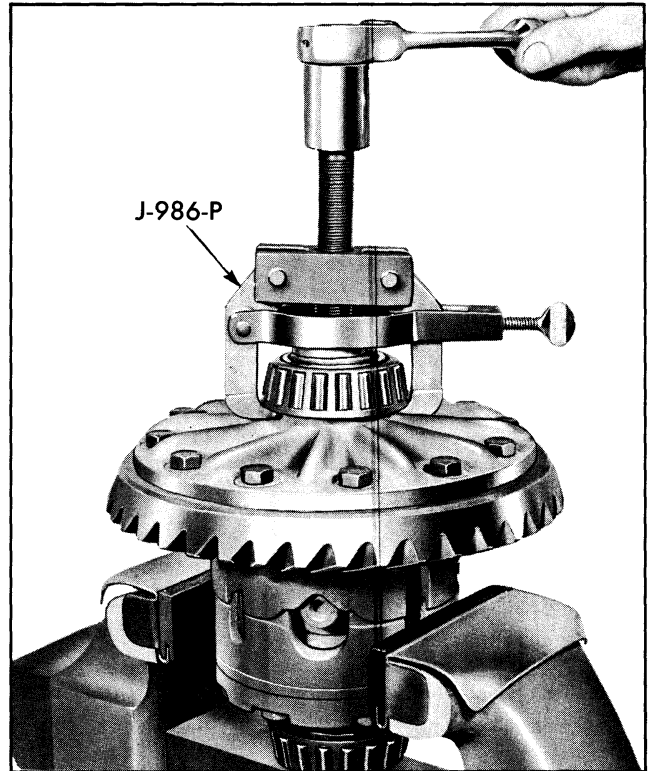

Fig. 4-62 Removing Side Bearings Using J-986-P
6. If bearing inspection indicates that bearings should be replaced, insert differential case in vise and, using side bearing puller J-986-P, remove side bearing (Fig. 4-62).